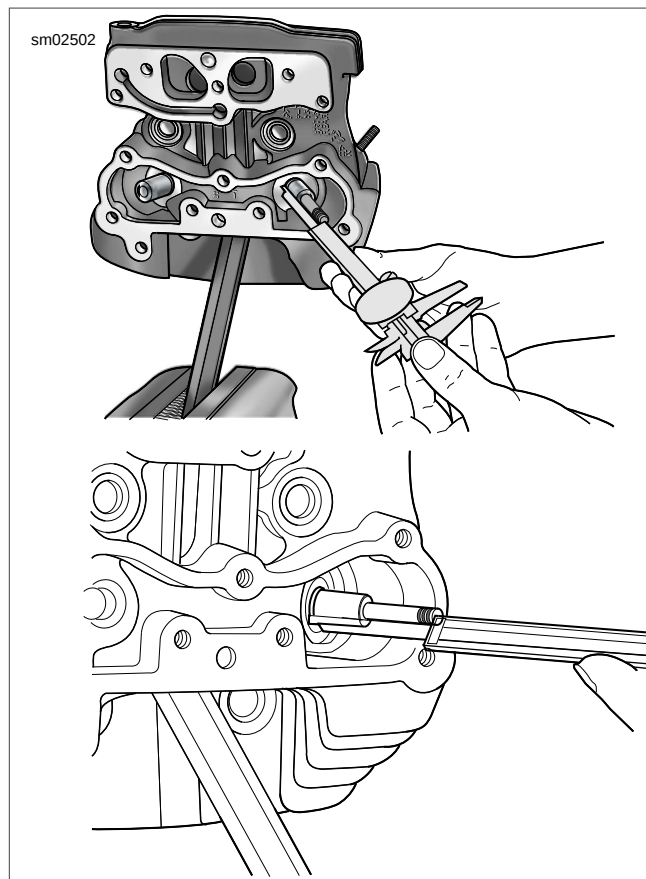

Figure 3-52. Checking Valve Stem Protrusion
5. See Figure 3-52. Measure valve stem protrusion.